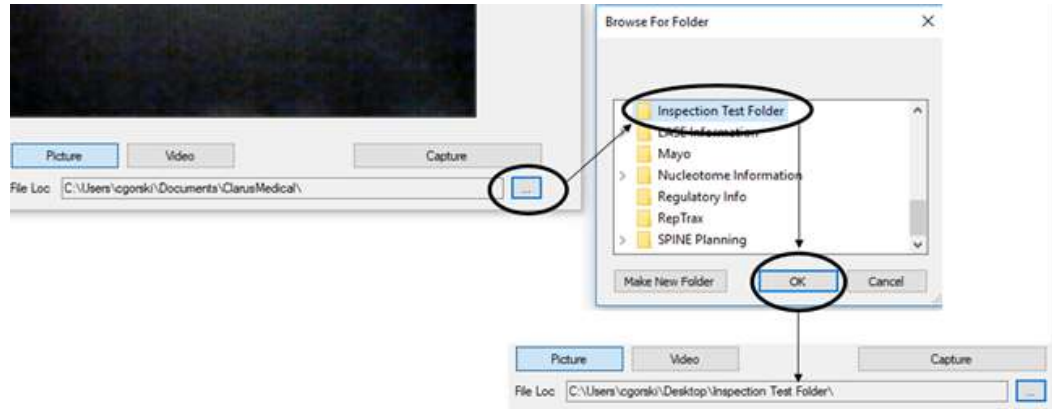

Figure 16
1. Click the Ellipse Button. **Fig. 16**